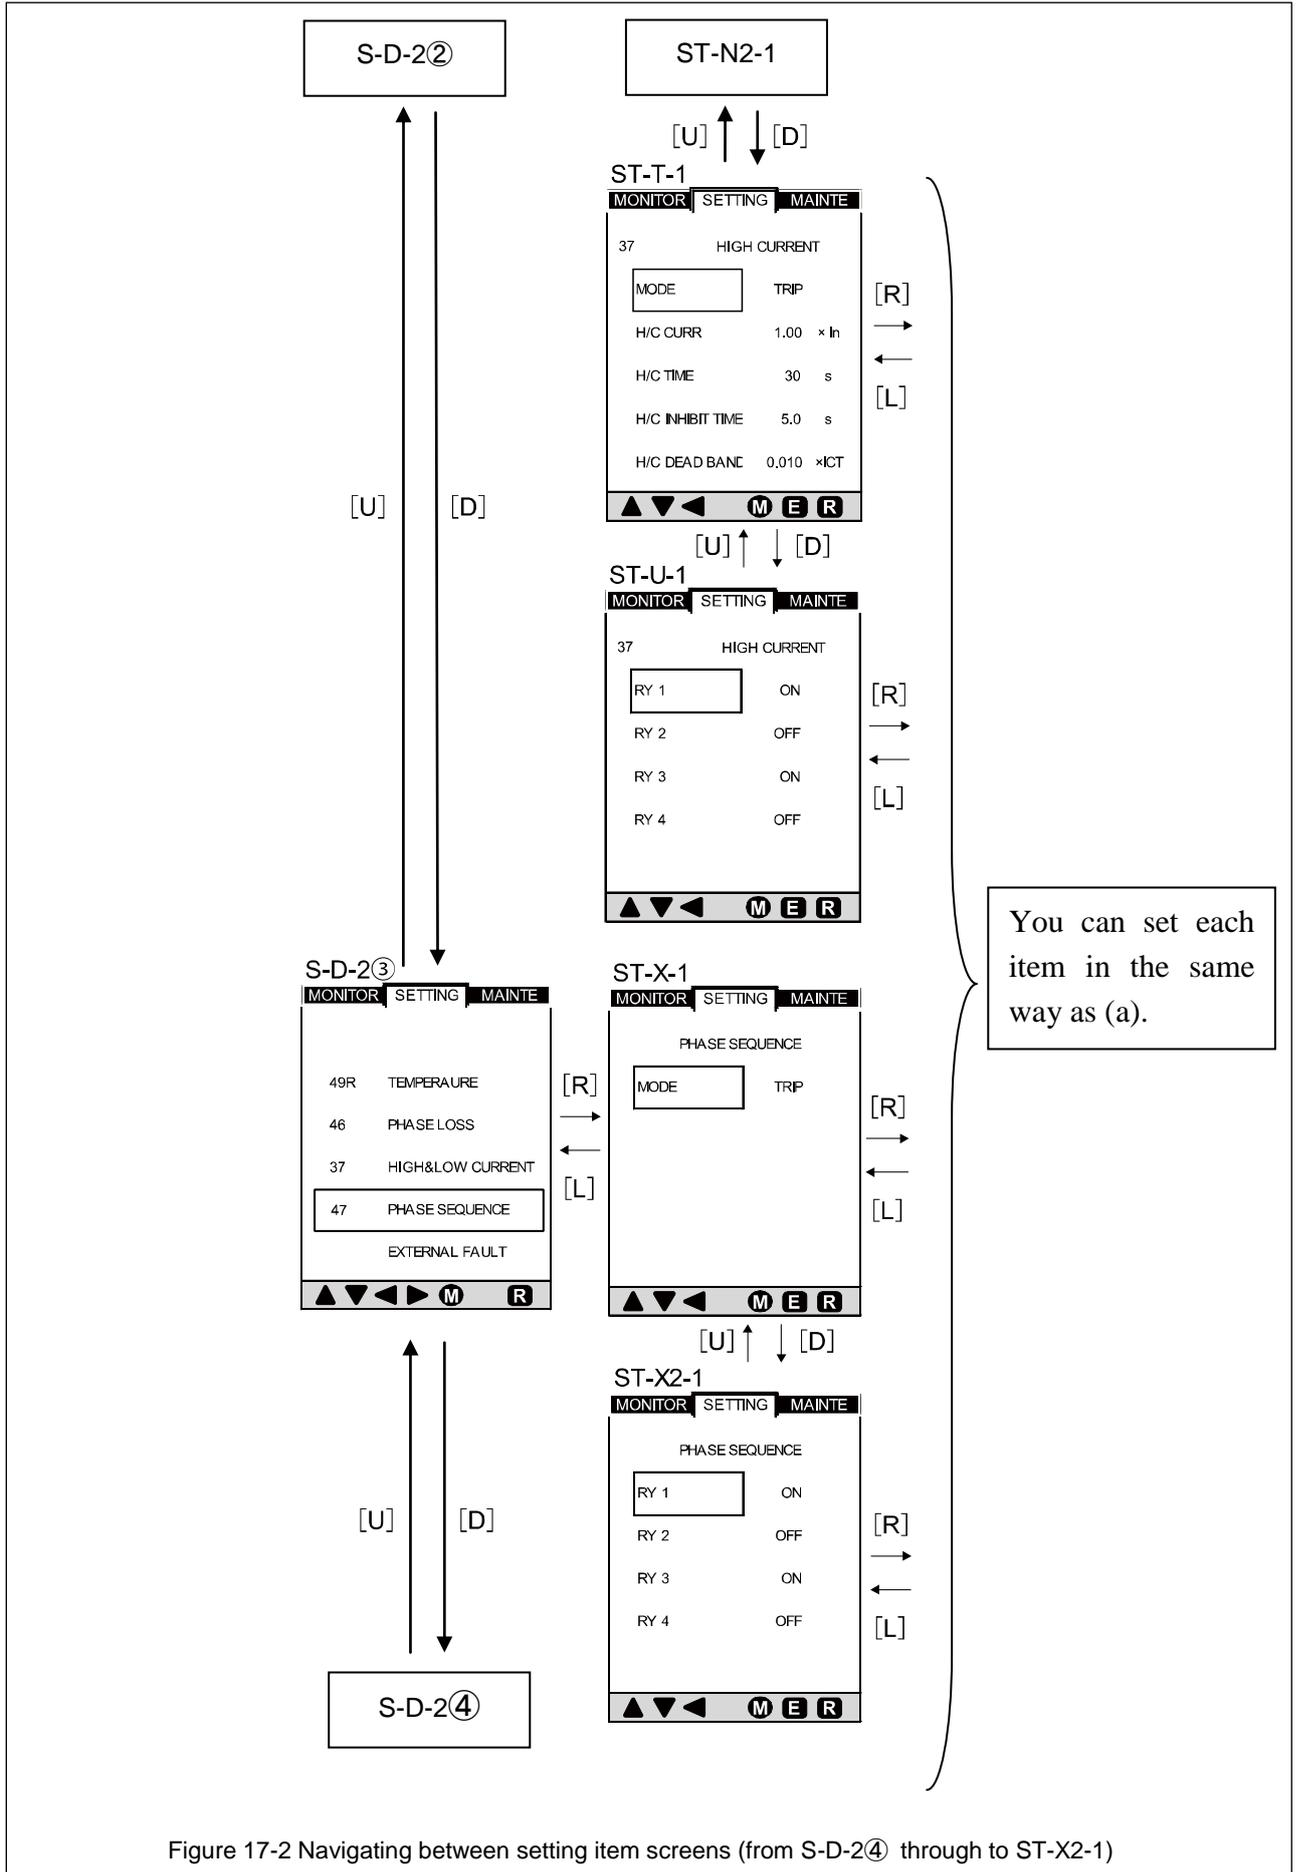

Figure 17-2 Navigating between setting item screens (from S-D-2④ through to ST-X2-1)
Figure 17-2 shows how to navigate between setting item screens (from S-D-2④ through to ST-X2-1). See Table 12-3 for items that are actually displayed on the screen.